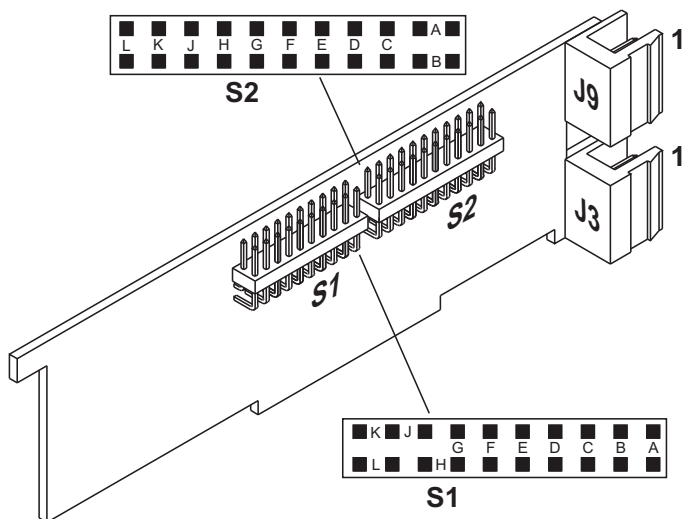

Figure 5-4. Signal Input Board
Figures 5-4 through 5-9 show the layout of the six (6) printed circuit boards with respective jumper blocks, where applicable, used in the meter.